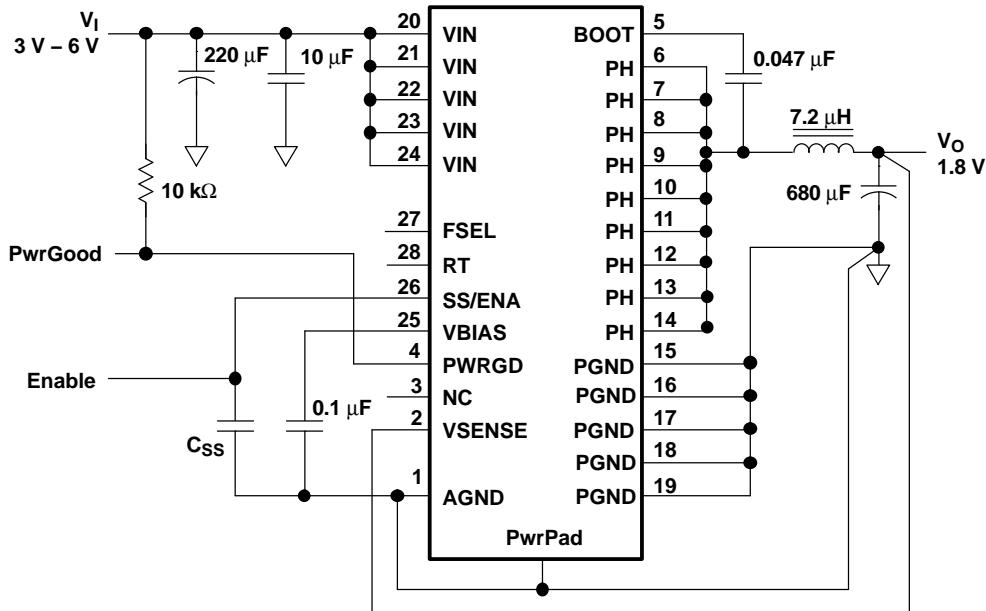

Figure 10. Application Circuit
(1) Specified by design
(2) Tested using circuit in Figure 10.
(3) To ensure proper operation when the RC filter is used between the external clock and the FSEL pin, the recommended values are  $R \leq 1\text{ k}\Omega$  and  $C \leq 120\text{ pF}$ .
Figure 10 shows the schematic diagram for a typical TPS54614 application. The TPS54614 (U1) can provide greater than 6 A of output current at a nominal output voltage of 1.8 V. For proper operation, the exposed thermal PowerPAD underneath the integrated circuit package needs to be soldered to the printed-circuit board.